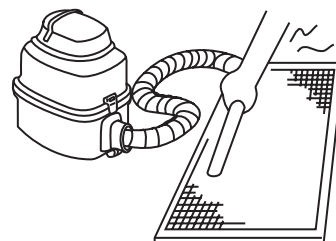

fig.9-3
- The air-in side should face up when using vacuum cleaner. (See *fig.9-3*)